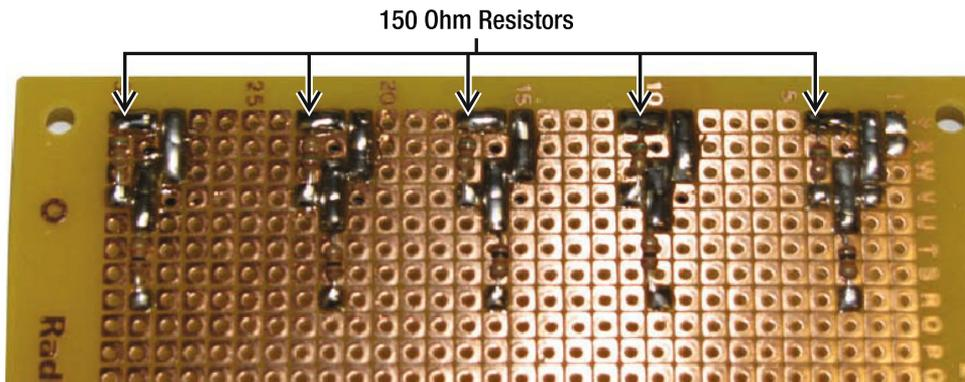

Figure 4-12. Install the (5) 150 ohm resistors from the Emitter's Cathode pin to Ground.
- Add 150 ohm current-limiting resistors for the IR Emitter LEDs. Supplying 5v through the 150-ohm resistor enables 33mA to go to each IR Emitter, which is just below the maximum current rating. Place each 150-ohm current limiting resistor from the cathode pin of each IR emitter to Ground as shown in Figure 4-12.